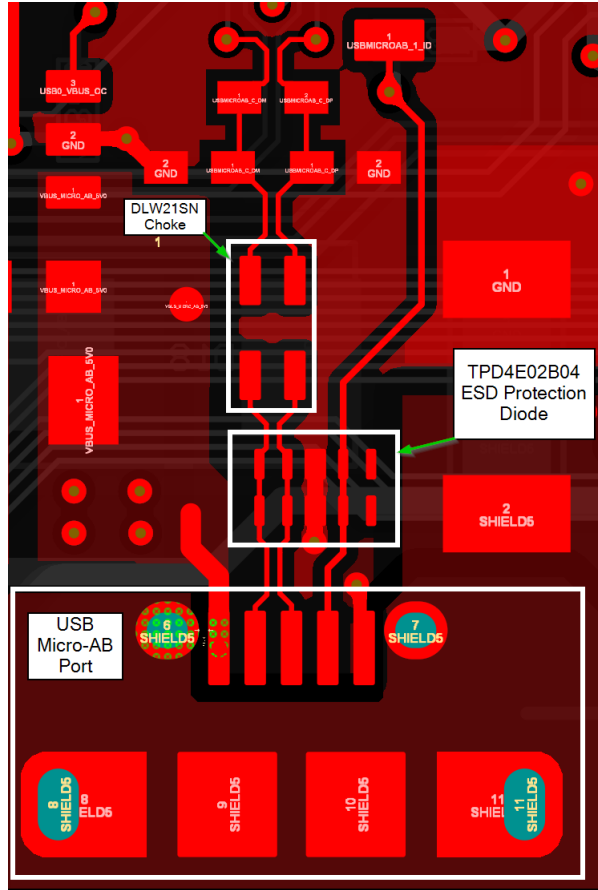

Figure 8-3. USB Routing Example
- Depending on the system design, a common mode choke can be helpful to pass EMI testing. A DLW21SN common mode choke by Murata is one recommended device, and is utilized on the AM261x EVMs. If EMI is a concern for the design, then TI recommends that a footprint for the choke be included in the design placed close to the USB connector. Figure 8-3 shows the placement of a DLW21SN choke.